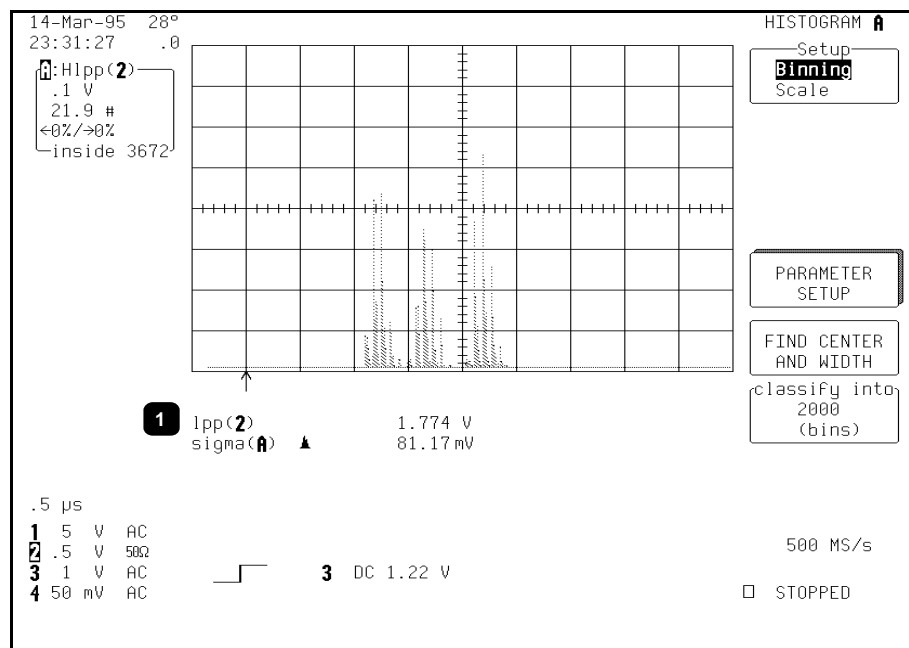

Figure 2.3
Figure 2.3 shows a histogram display of 3672 parameter measurements divided into 2000 bins. The standard deviation of the histogram sigma (Annotation ❶) is 81.17 mV. Note the histogram's jagged appearance.